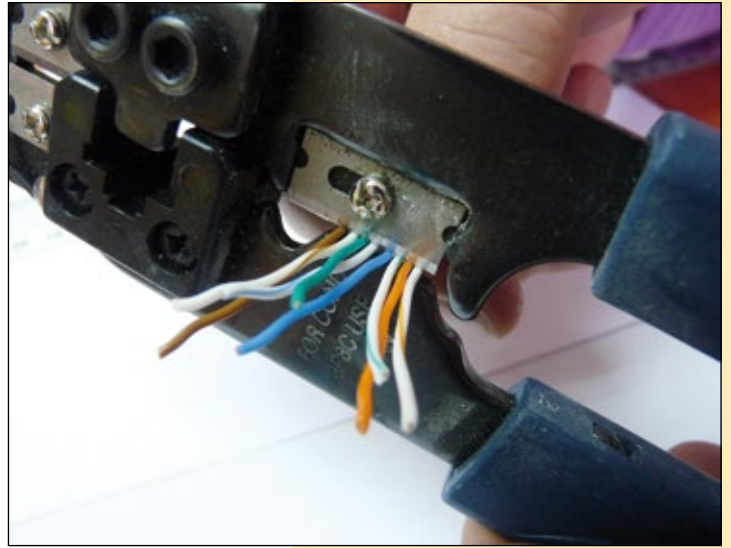

**Figure 8**
- 7 Please separate each pair wires and straighten them with the help of the screwdriver. As shown in **Figure 8**.